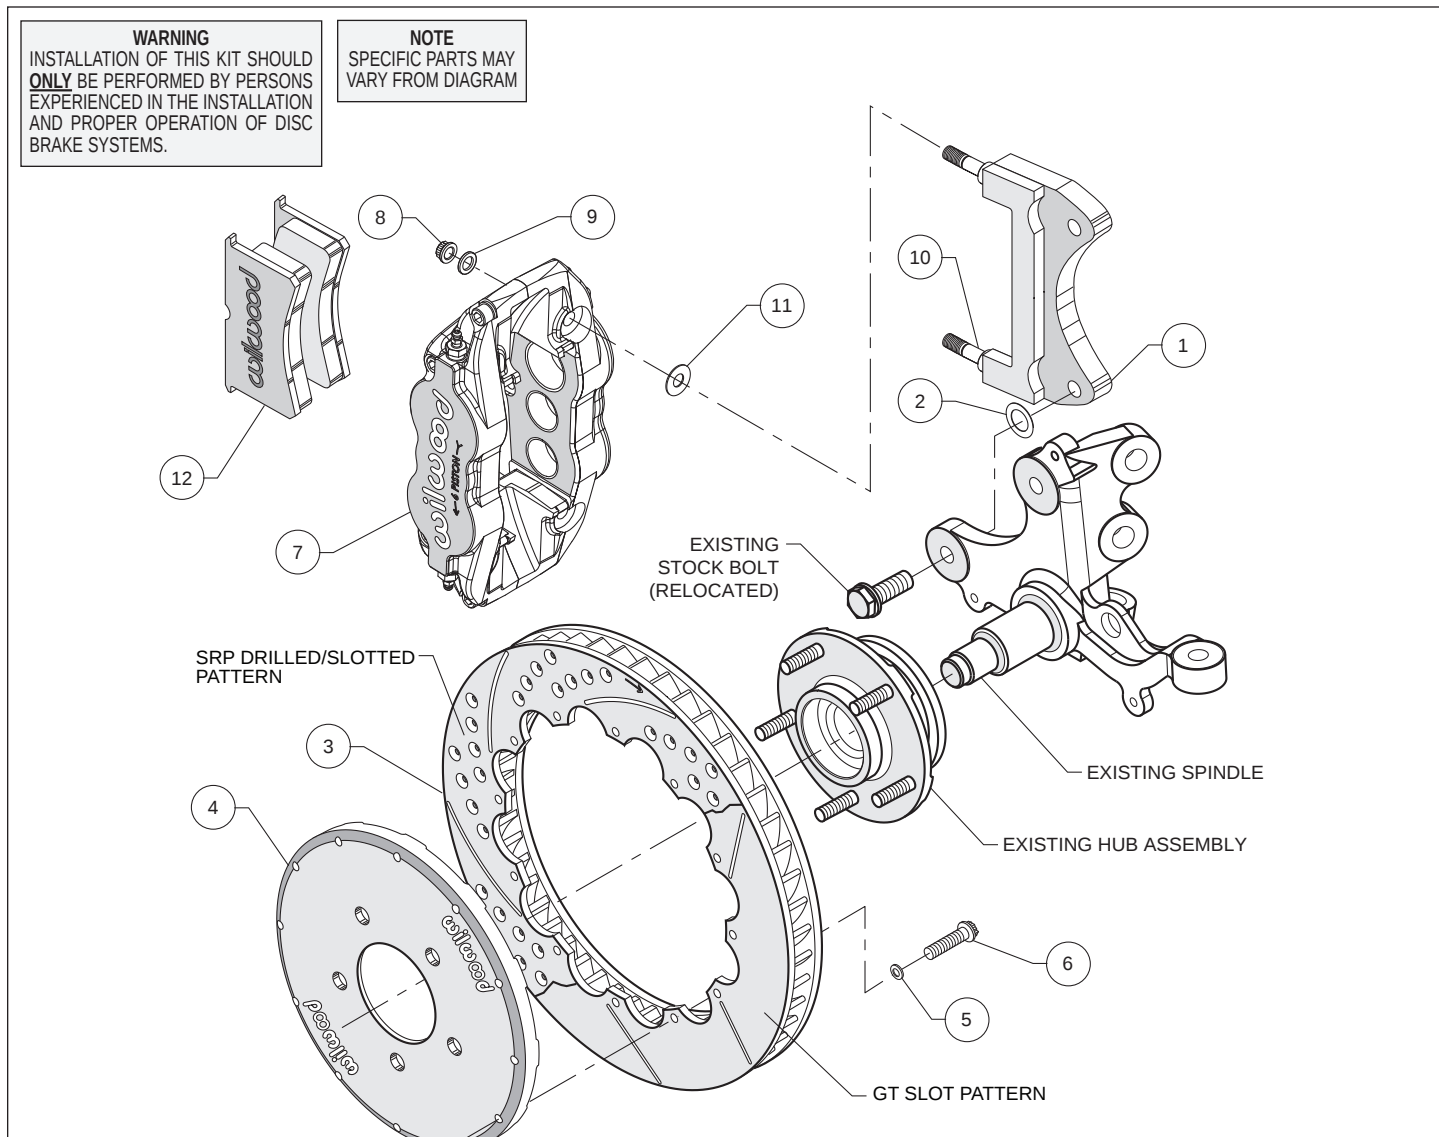
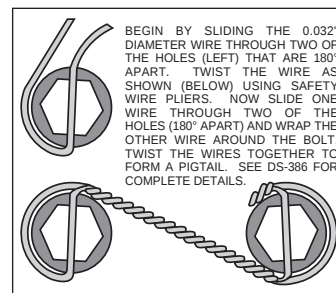

Figure 1. Typical Installation Configuration
Figure 3. Safety Wire Diagram
- The caliper mount bracket (1) should initially be installed with clean, dry threads on the mounting bolts. Orient the bracket as shown in Figure 1, and using stock bolts (Install the stock bolts from the near side, opposite from the way they were removed). Initially place one .033 thick shim (2) on each bolt between the bracket and upright, Figure 1. Temporarily tighten the mounting bolts. **NOTE: The bracket must fit squarely against the mount bosses on the upright.** Inspect for interference from casting irregularities, machining ridges, burrs, etc. Later, after the caliper alignment has been checked, the mount bolts will be secured using red Loctite® 271.
- Orient the rotor (3) and the hat (4) as shown in Figure 1 and Photo 1. Attach rotor to hat using bolts (6) and washers (5). Using an alternating sequence, apply red *Loctite*® 271 to the threads, and torque to 155 in-lbs. For an added measure of security, the bolts may be safety wired using standard 0.032 inch diameter stainless steel safety wire as shown in Figure 3. Please refer to Wilwood's data sheet DS-386 (available at www.wilwood.com/Pdf/DataSheets/ds386.pdf) for complete safety wire installation instructions.
- **NOTE:** This kit contains distinct right and left hand calipers that must be mounted in a specific direction, as described below. Lubricate the caliper mounting studs (10) with lightweight oil. Initially place one .035" thick shim (11) on each stud as shown in Figure 1 and Photo 2. Mount the caliper (7) onto the bracket (1) using lock nuts (8) and washers (9), Figure 1. Ensure that the caliper is mounted so that the largest pistons are at the rotor exit end of the caliper, in relation to the direction of rotor rotation. Temporarily tighten the lock nuts and view the rotor through the top opening of the caliper. The rotor should be centered in the caliper, Photo 3. If not, adjust by adding or subtracting shims (2) between the bracket and the upright. Always use the same amount of shims on each of the two mounting bolts. Once the caliper alignment is correct, remove the bracket mounting bolts one at a time, apply red *Loctite*® 271 to the threads, and torque stock bolts to 65 ft-lb.